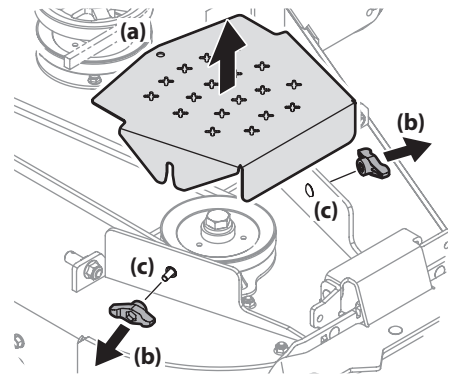

Figure 52
3. To remove the belt covers (a), remove the wing knobs (b) from the carriage screws (c) securing it to the deck. See Figure 52.
4. The speed nut should hold the carriage screw (c) and tab bolt in place, if not re-install as shown in Figure 52.